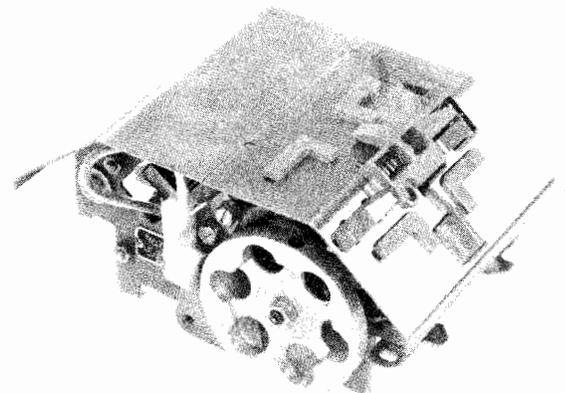

Figure 1 - Tape Reader Unit
1.01 This section provides disassembly and reassembly information for the high speed tape reader units (Figure 1). It is reissued to incorporate engineering changes and comments received on Issue 4. Since only a limited distribution was made on Issue 4, marginal arrows have been omitted.
1.05 References in the procedures to left or right, up or down, top or bottom, etc refer to the reader viewed with the flywheel facing the front (Figure 1).